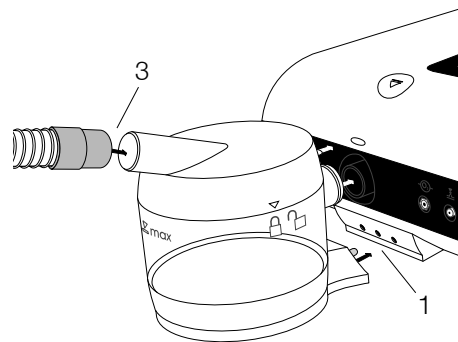

Fig. 18: Humidifier connection
1. Connect the humidifier to the device as in Fig. 18 until it locks into place. Ensure that the contact pins and the air outlet of the humidifier are fitted to the device without being skewed and distorted. If the device is set for operation with a valve tube system, the following message appears: